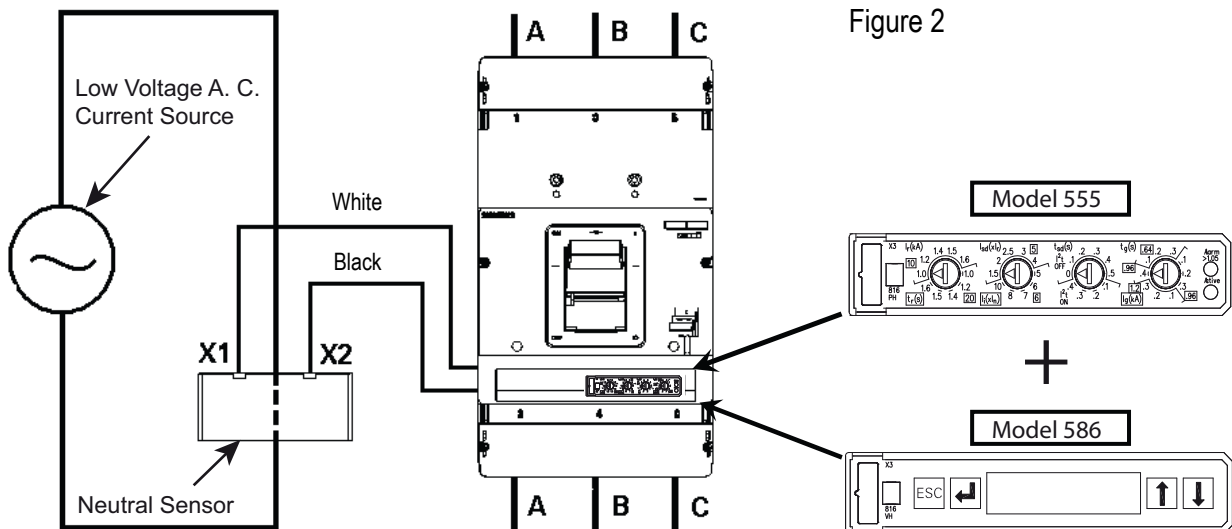

Figure 2
3. Using Figure 2, connect a low voltage current source thru the neutral sensor.